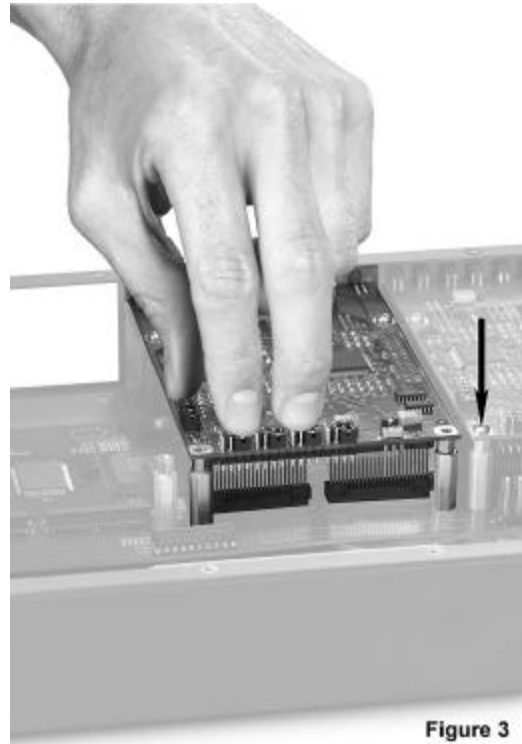

Figure 3
STEP 3: Once the header pins are precisely aligned with the holes in the socket slot, slowly and carefully apply enough pressure on both rear corners of the quad port module to insert the quad port module's pins into position (**Figure 3**). A “click” sound will determine the proper lockup of the two. Do not force the QPM down when the pins are not properly aligned with the holes in the header.
Now complete the step by fastening the two screws on the rear of the module (**highlighted in Figure 3**).